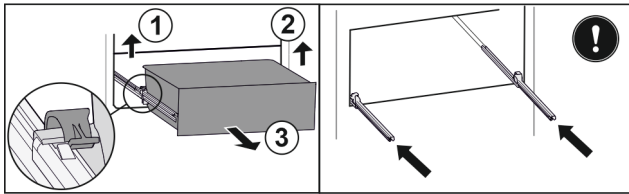

Fig. 143
- ▶ Lift left clamp and simultaneously pull drawer forwards on the left. Fig. 143 (1)
- ▶ Lift right clamp and simultaneously pull drawer forwards on the right. Fig. 143 (2)
- ▶ Remove drawer to the front. Fig. 143 (3)